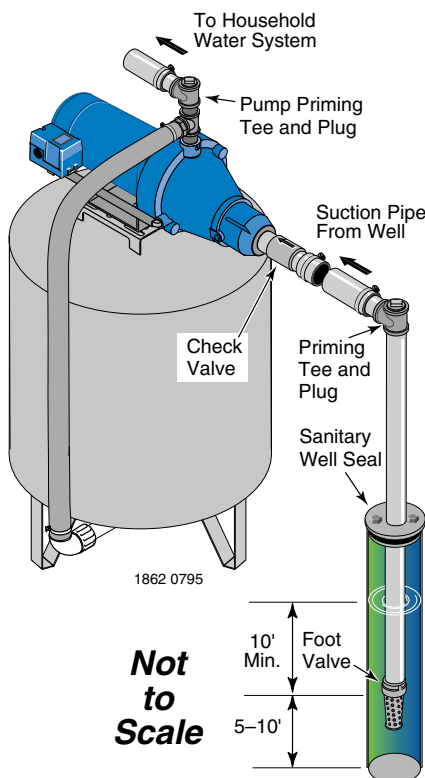

Figure 2: Cased Well Installation
CASED WELL INSTALLATION, 2” OR LARGER CASING (Figure 2)
- Step 2. Assemble the foot valve, strainer, and well pipe (see Figure 2). Make sure that the foot valve works freely.
Step 4. Install a priming tee, priming plug, and suction pipe to the pump (see Figure 2). Connect the pipe from the well to the pump suction port, using the fewest possible fittings – especially elbows – as fittings increase friction in the pipe (however, include a foot valve – see Figure 2). The suction pipe should be at least as large as the suction port on the pump. Use teflon tape or a teflon-based pipe joint compound on threaded pipe joints. Support the pipe so that there are no dips or sags in the pipe, so it doesn't strain the pump body, and so that it slopes slightly upward from the well to the pump (high spots can cause air pockets which can air lock the pump). Seal the suction pipe joints with teflon tape or a teflon based pipe joint compound. Joints must be air- and water-tight. *If the suction pipe can suck air, the pump cannot pull water from the well.*